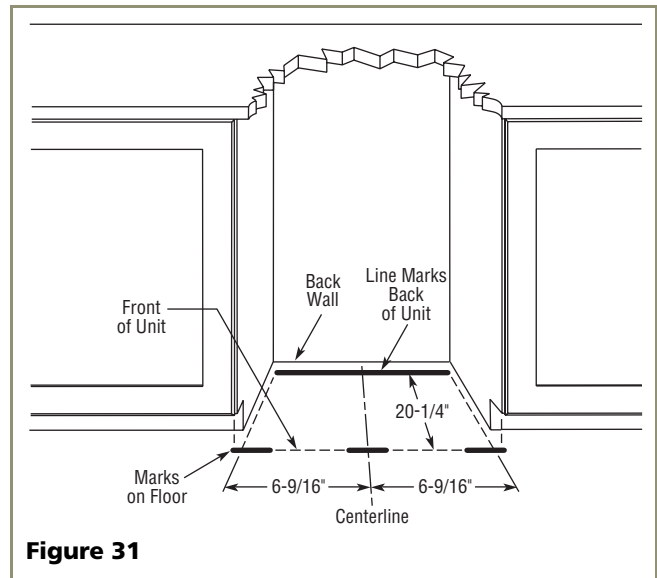

Figure 31
4. Remove the unit. Using a square, extend a centerline 20-1/4" toward the back wall. See **Figure 31**. At the back of the centerline, mark a line that measures 6-9/16" to the left and right. This line serves as the back edge for the Anti-Tip Brackets and its furthest points mark the outer edge of each bracket.